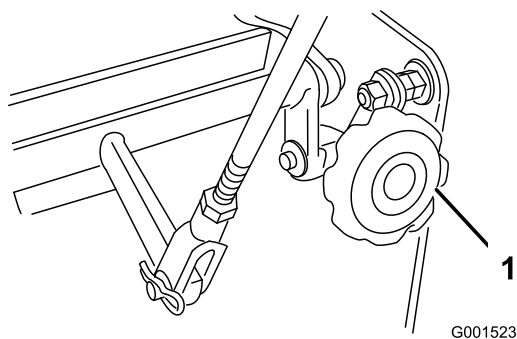

Figure 44
4. If the unit tracks to one side or the other, turn the quick track knob. Turn the knob right to steer right and turn the knob left to steer left (Figure 44).